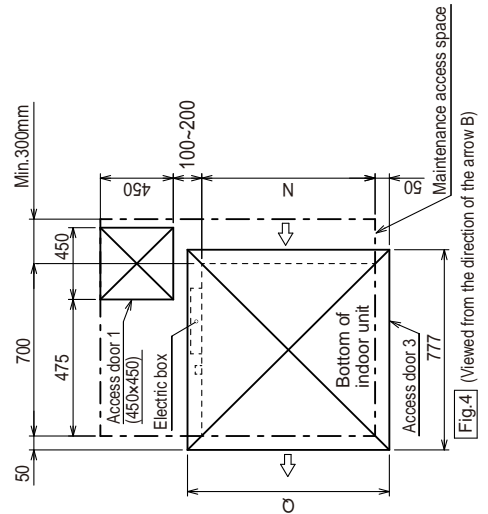

Fig.4 (Viewed from the direction of the arrow B)
-Create access door 1 diagonally below the electric box and access door 3 below the unit as shown in Fig.4.